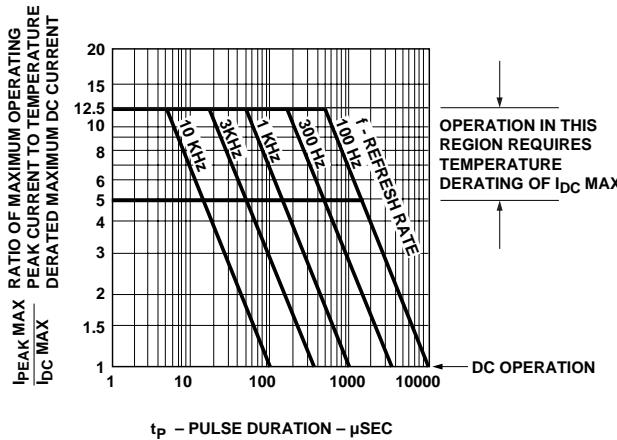

Figure 1. Maximum Tolerable Peak Current vs. Pulse Duration – Red.
1. See Figure 1 to establish pulsed operating conditions. Maximum pulse width is 1.5 ms.